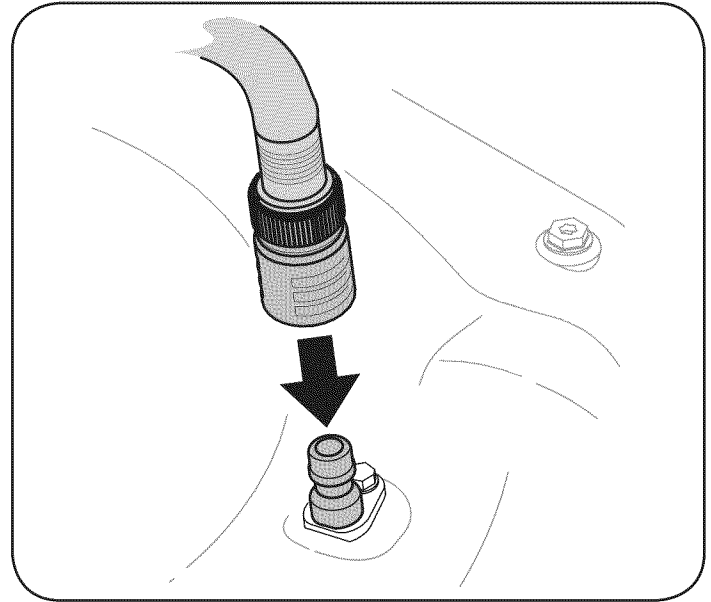

Figure 21
3. Attach the hose coupler to the water port on your deck's surface. See Figure 21.